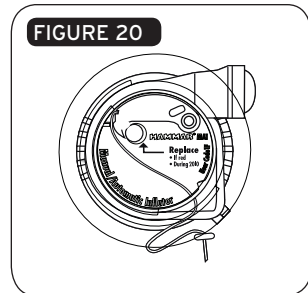

FIGURE 20
2. Secure the cover flap by aligning the stabilizing cap with the contours of the inflator cap (Figure 20). Keeping the stabilizing cap stationary over the inflator, with firm pressure, pull the flap tight and engage the Velcro®.